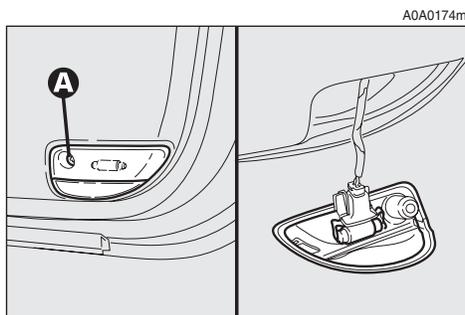

fig. 37
- Insert the bulb holder making sure the side catches click into place (E).
- Refit the transparent cover-bulb holder (C) in the support (D).
- Re-connect the electric connector (B).
- Refit the unit on the tailgate tightening the screws (A).
**PUDDLE LIGHT (fig. 37)